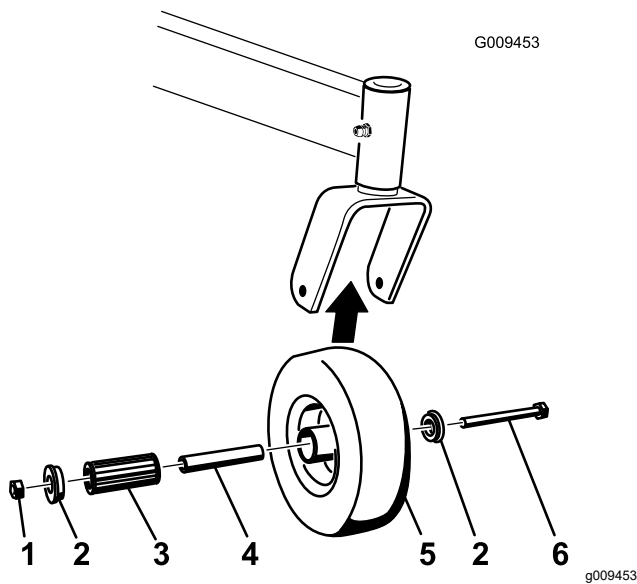

Figure 48
1. Remove the locknut and wheel bolt holding the caster wheel to the caster fork (Figure 48).
2. Remove 1 bushing, then pull the spanner bushing and roller bearing out of the wheel hub (Figure 48).
3. Remove the other bushing from the wheel hub and clean any grease and dirt from the wheel hub (Figure 48).
Note: Replace any damaged or worn parts (Figure 48).
5. Place 1 bushing into the wheel hub (Figure 48).
6. Grease the roller bearing and spanner bushing, and slide them into the wheel hub (Figure 48).
7. Place the second bushing into the wheel hub (Figure 48).
8. Install the caster wheel into the caster fork and secure it with the wheel bolt and locknut (Figure 48).
9. Tighten the locknut until the spanner bushing bottoms against the inside of the caster forks (Figure 48).